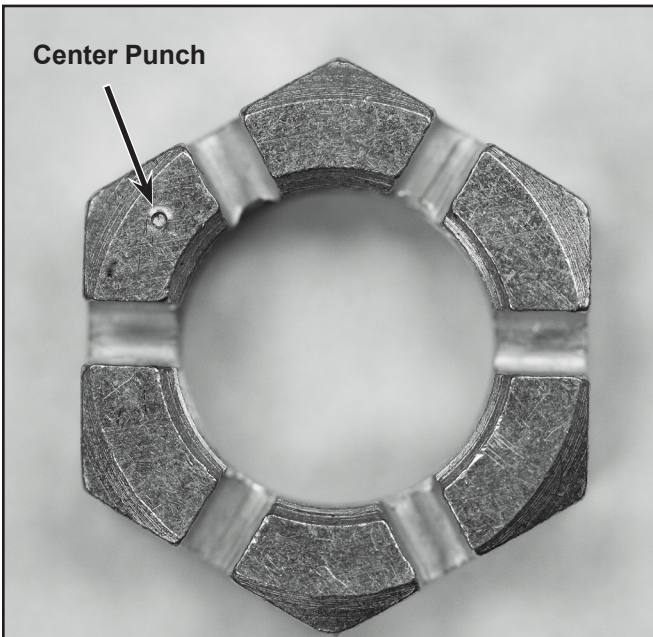

Figure 5 - Center-Punch Mark
- 1) Using an automatic center punch, punch the face of the hex-nut (1) so that it will be easily identified for future reference (Refer to Figure 5). Continue to 3.B.(7).